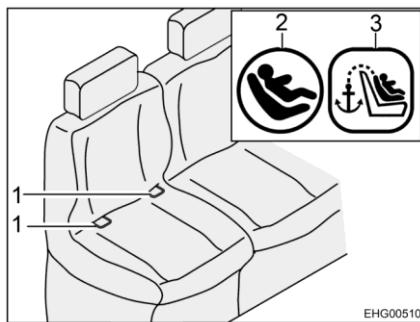
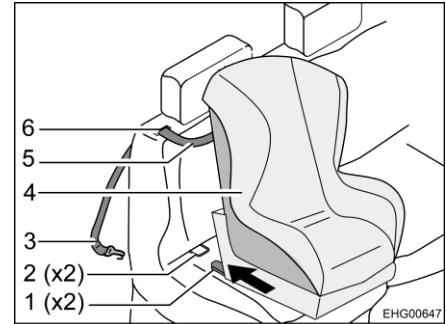

Fig. 6      Seat with ISOFIX
Fig. 7      Fastening with top tether
- Guide the top tether strap (Fig. 7,5) through the slot (Fig. 7,6) in the cushion of the backrest (next to the headrest).
- Hook the fixing hook (Fig. 7,3) onto the attachment point on the back of the vehicle seat.
- Have the connectors (Fig. 7,1) snap into the retaining clips (Fig. 6,1 and Fig. 7,2). While doing this, a distinctive click must be heard.
- With a strong jerk, check if the child seat (Fig. 7,4) is firmly connected.